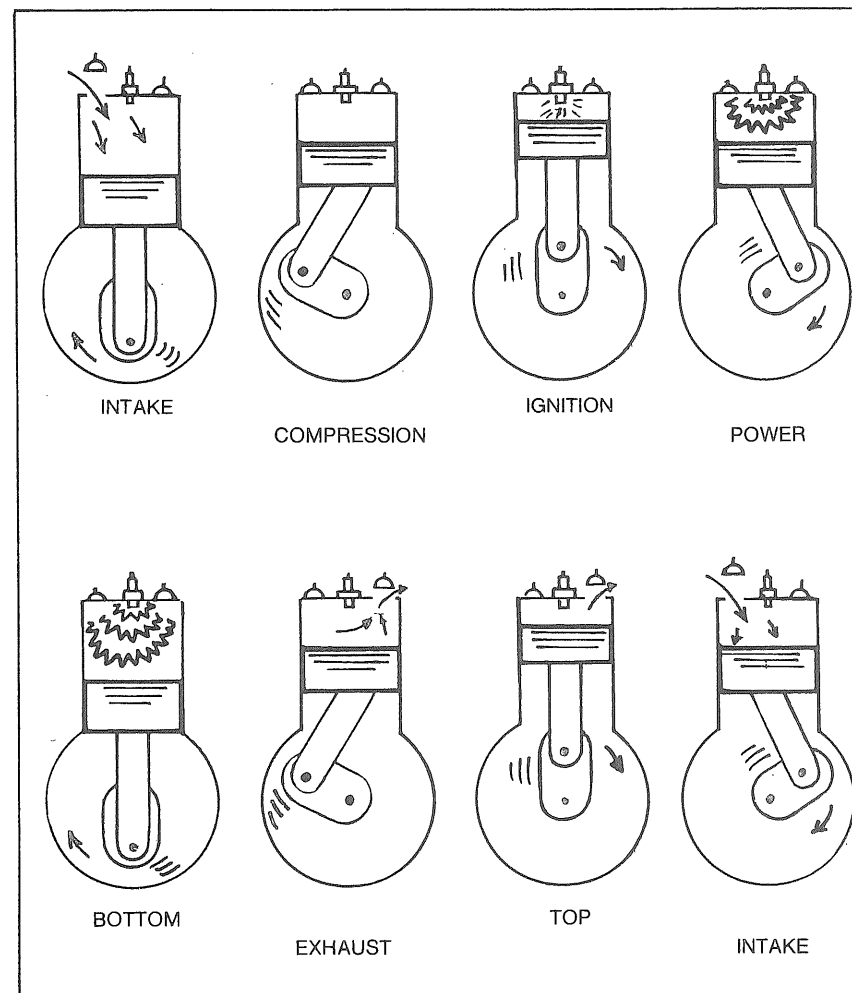

Fig. 12-1 —Four Cycle Internal Combustion Engine
You might say the process flow in a gasoline engine starts in the gas tank when you fill it at a gas station. Then when you start the engine, the fuel pump sucks gasoline out of the tank and sends it to the carburetor. The carburetor vaporizes the gasoline, mixes it with air, and sends it to the cylinder. At this point, the *sequence* of events illustrated in Fig. 12-1 is essential.
**Knocking.** It'll be helpful to refer back to Fig. 12-1, the diagram of the engine cycle. After the gasoline/air vapor is injected into the cylinder, the piston moves up to compress it. As the vapor is compressed, it heats up. (Ever feel the bottom of a bicycle pump after you've pumped up a tire. It's hot. Same effect as in an engine cylinder.) If the gasoline/air vapor is compressed enough, it will get hot enough to *self-ignite*, without the aid of a spark plug. If this happens before the piston reaches the top of the stroke, the engine will knock, that is, push against the crankshaft instead of with it. Knocking is usually perceived as a thud, ping, or knock coming from the engine.